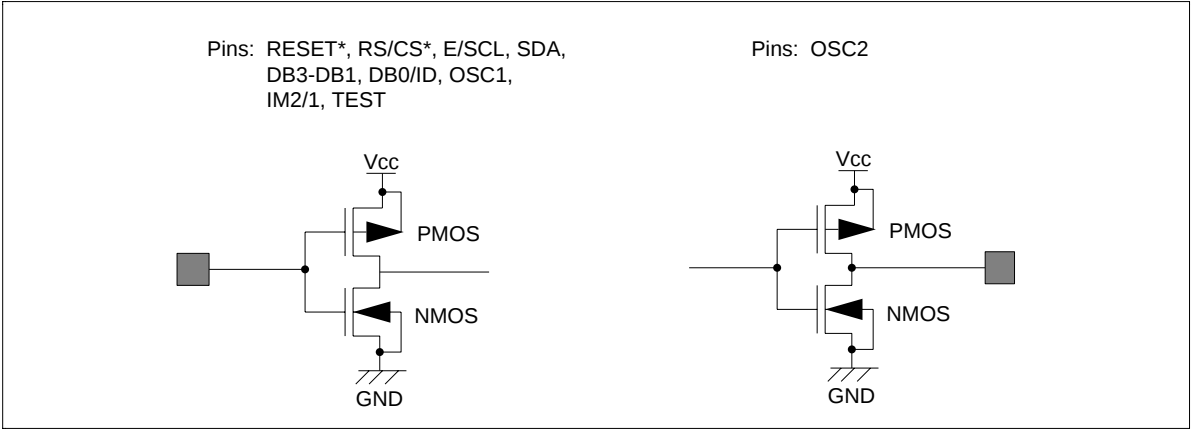

Figure 36 I/O Pin Configuration
- 2. The following two circuits are I/O pin configurations (figure 36).